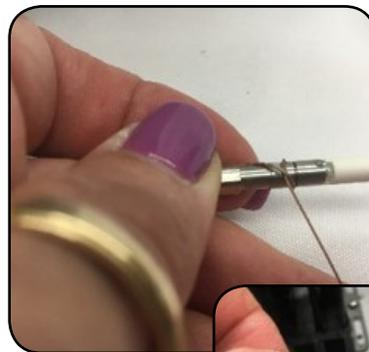

Figure 3
3. Loop a half hitch knot around the connector at the first notch in the crimp tube, tie the microduct pull string to the connector pulling eye **(Figure 3)**.